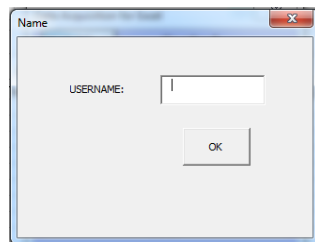

Figure 3.2: QC3 username window.
- 424 5. Enter you name in the new window (Fig. 3.2). Then press *OK*.
5. Enter you name in the new window (Fig. 3.2). Then press *OK*.